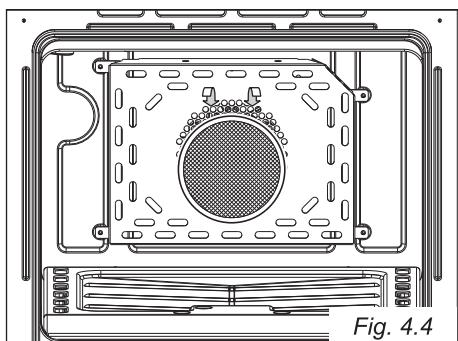

Fig. 4.4
- A special screen is provided at the back of the oven to catch grease particles, mainly when meat is being roasted (fig. 4.4).
- Slide in the grease filter on the back of the oven as in fig. 4.4.